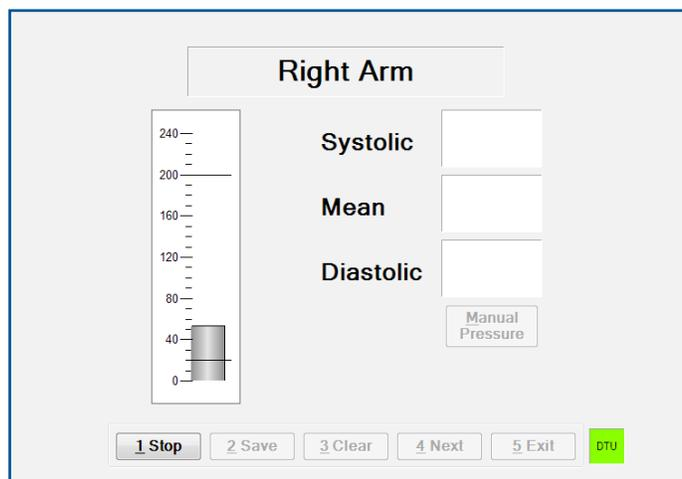

FIGURE 1.15 - Right Arm - Pressure Measurement
15. After a pulse has been confirmed or “No, Continue Anyway” is clicked, pressure in the Right Arm cuff will gradually increase (Figure 1.15) and then decrease.